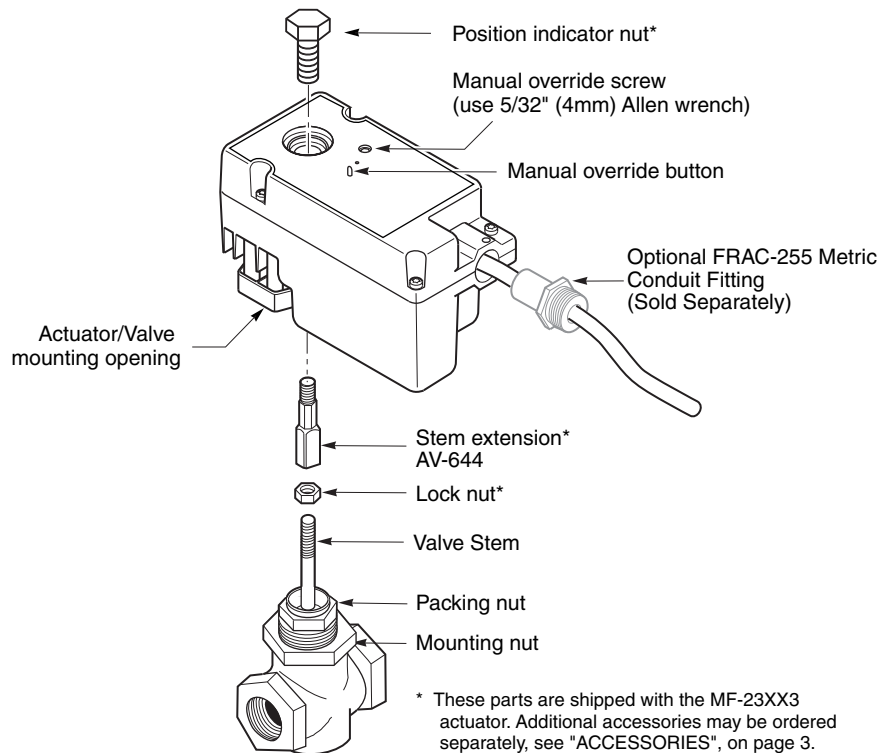

Figure-9 MF-22XX3 Assembly Diagram.
If an actuator is run or adjusted without being mounted to a valve, the actuator position can be re-established (refer to Figure-9 and Table-4):
See Figure-9 for parts identification.
**Caution:** The hex shaped interface between the stem extension and drive screw does not require high indicator nut tightening torque. Do not tighten the indicator nut beyond the hex shoulder on the stem extension or a reduction in the actuator output may result. See Figure-9 for parts identification.
All models are provided with a means of manual positioning the valve without power to the actuators. See Figure-9 for the location of the manual override button and manual override screw. Rotating manual override screw clockwise as seen from the top of the actuator, extends the actuator shaft.
Replace with a functional actuator. The AV-644 valve linkage kit can be ordered separately as a replacement part for the parts that were included with the actuator. The following instructions are for disassembling the actuator from the valve for actuator replacement or valve repacking. See Figure-9.